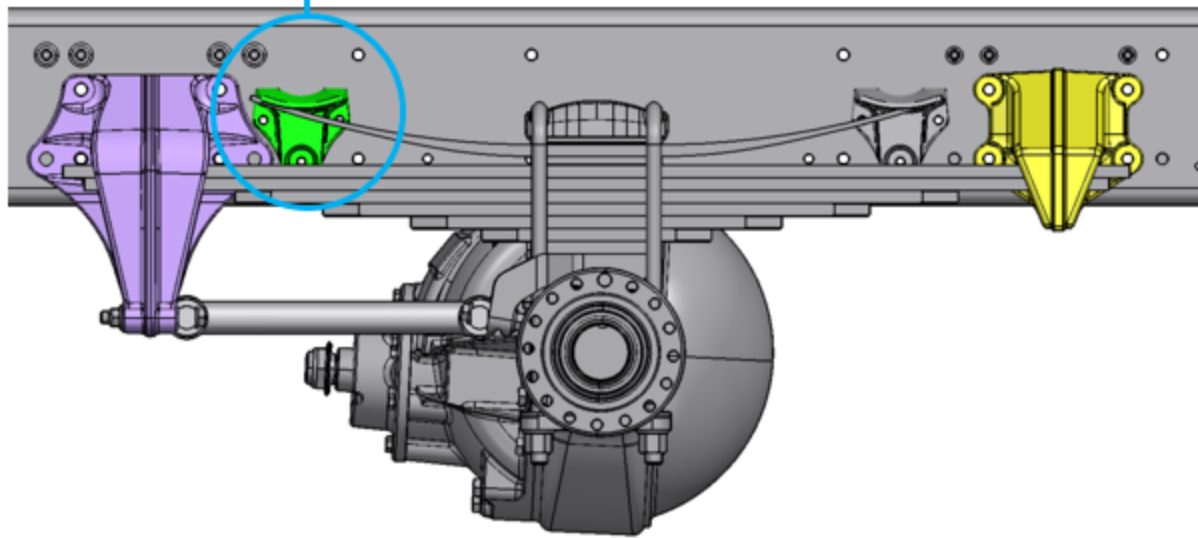

Fig. 2
- 5) If the suspension includes a helper spring bracket, the 15-15519-000 spacer plate will need to be modified to provide clearance (see Fig 2)